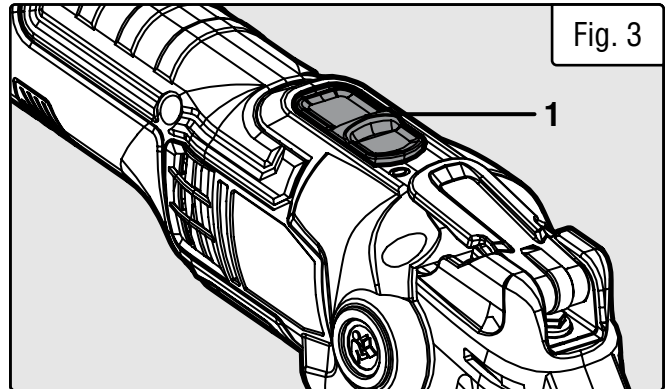

Fig. 3
2. To start the tool, push the power switch (Fig. 3 - 1) forward to the ON position.